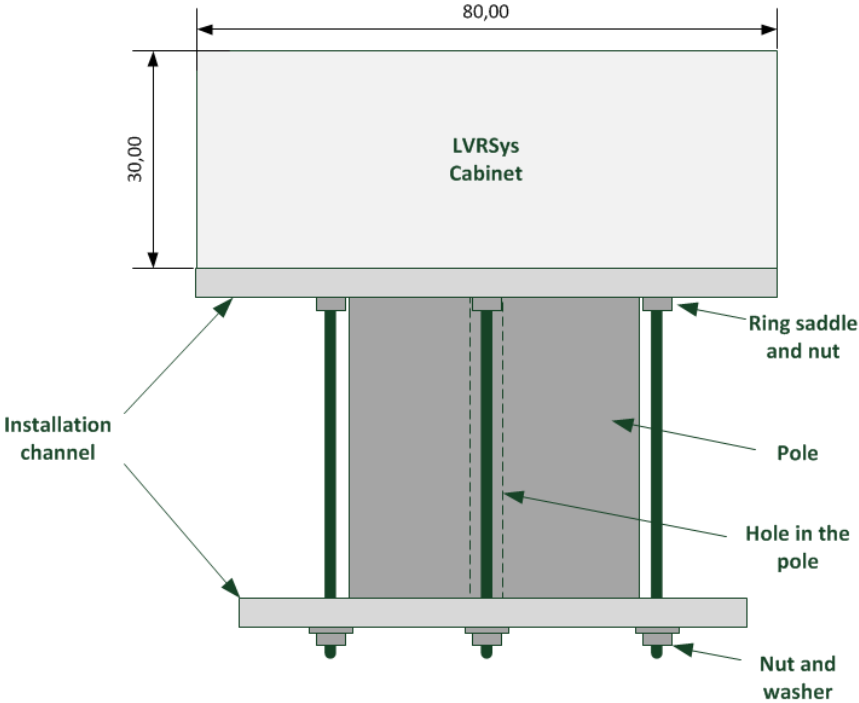

Figure 5-38 Top view pole installation
- Fixation of the cabinet through installation channels with washers and nuts. (see Figure 5-38 Top view pole installation)